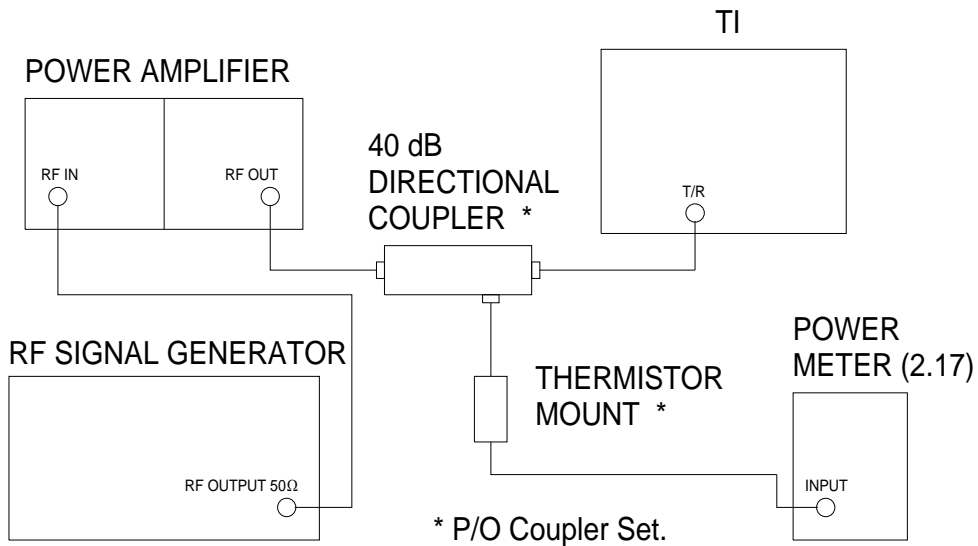

Figure 1.
4.8.2 Connect equipment as shown in Figure 1.